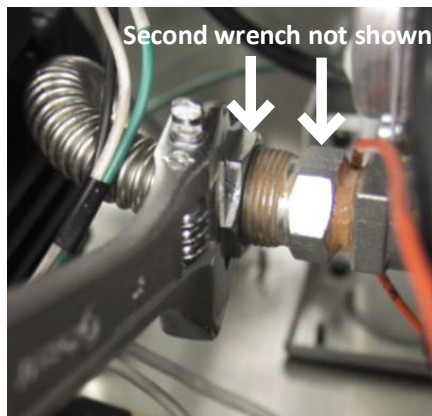

Figure 2
5. Inside the jacket, use one adjustable wrench to hold the CSST adapter. Use the second wrench to loosen and disconnect the CSST flair nut (Figure 2).